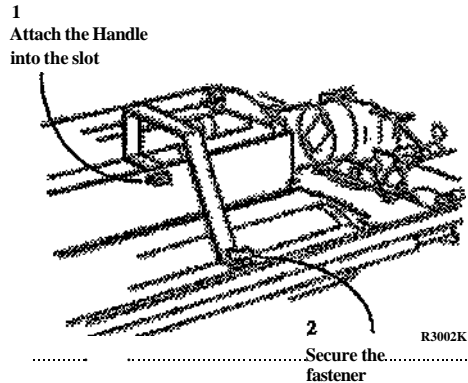

Figure 2. Installing the Handles (Right Side)
7. (Figure 2): Install the Handles onto the Left and Right Side of the Xerographic Module.